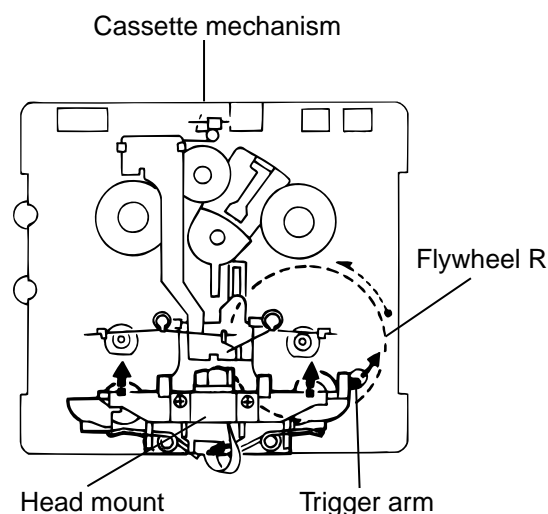

Fig. 1
■ Removing the playback/recording & eraser head (See Figs. 1 and 2)
1. While shifting the trigger arms seen on the right side of the head mount in the arrow direction, turn the flywheel R in counterclockwise direction until the head mount has gone out with a click (See Fig. 1).